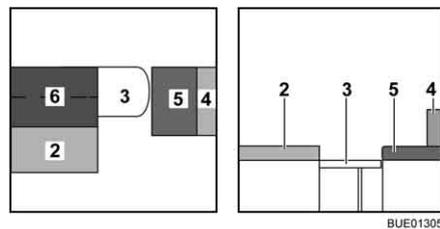

Fig. 122 During conversion
- Unfold the additional cushion (Fig. 122,6) and lay it on the table.